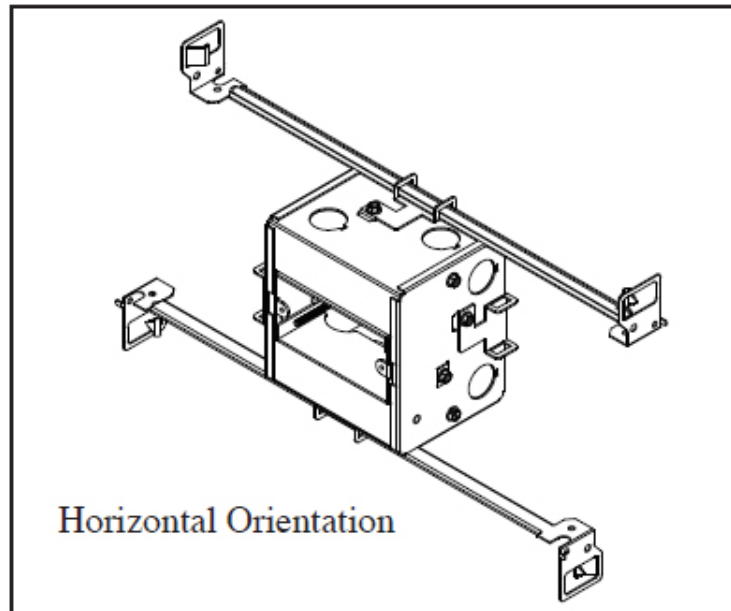

Figure 4
2. Install the hanger bars through the slots in the brackets of the back box to match the required orientation of the back box. There is a male and female portion of the brackets that slide together. The brackets slide 24" apart to accommodate varied wall stud spacings (see figure 4).